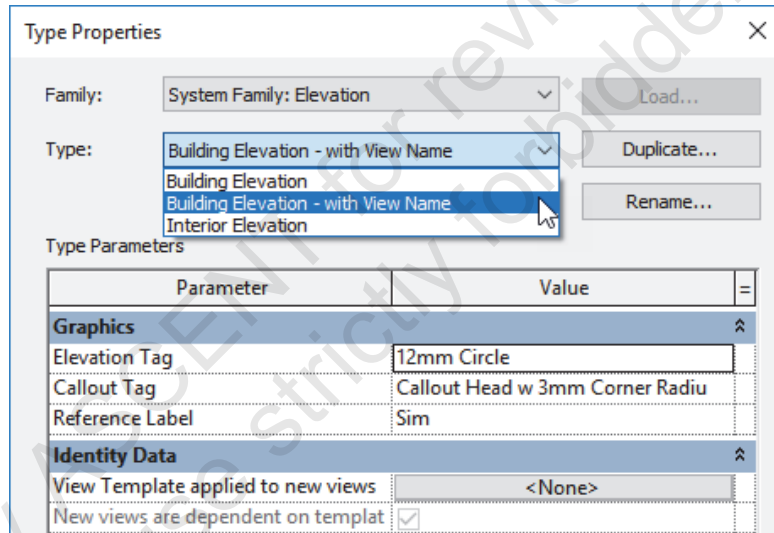

Figure 1–61
3. In the *Type Properties* dialog box for the tag, select from an existing tag type or duplicate a tag type, and specify a new mark element from a list of families that have been loaded into the project, as shown in Figure 1–62.